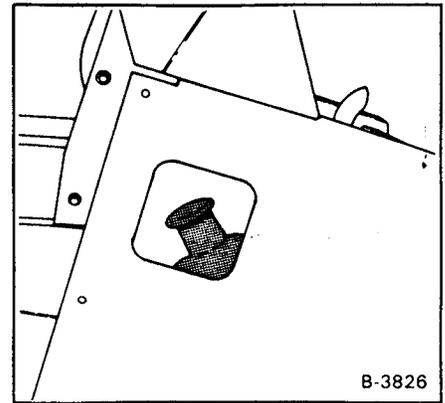
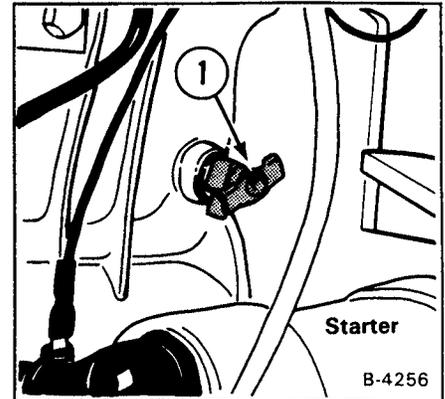

Fig. 1-20 Coolant Recovery Tank
Fig. 1-21 Engine Coolant Drain
When the engine is cool, the coolant recovery tank (Fig. 1-20, Item 1) must be 1/3 full. Add coolant to the tank when the coolant level is low.
- (1) Remove the rear grill.
- (2) Remove the radiator cap.
- (3) Install a hose on the engine block drain (Fig. 1-21, Item 1).
- (4) After the coolant is removed, close the engine block drain and remove the hose.
- (5) Mix coolant in a separate container (See the Specifications Section for capacity).
- (6) Fill the radiator to the top of the fill pipe and install the radiator cap.
- (7) Install the rear grill
- (8) Fill the coolant recovery tank (Fig. 1-20) 1/3 full with premixed coolant.